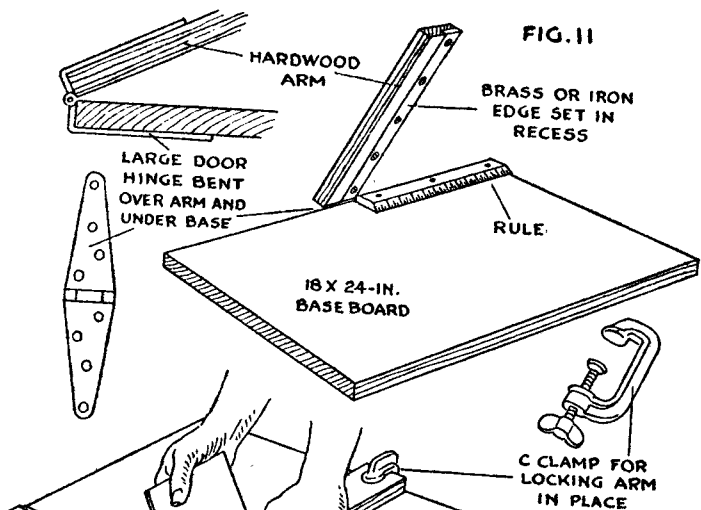

FIG. 11
*Bending Aluminum:* By building the simple bending jig shown in Fig. 11, your problem of chassis making will be greatly simplified. Resembling a cutter board for photographs or paper, it consists simply of an eighteen- by twenty-four-inch baseboard to which is hinged a two- by eighteen-inch hardwood arm. To protect the front or bending edge of the arm, a strip of steel or brass is fitted into a shallow recess.